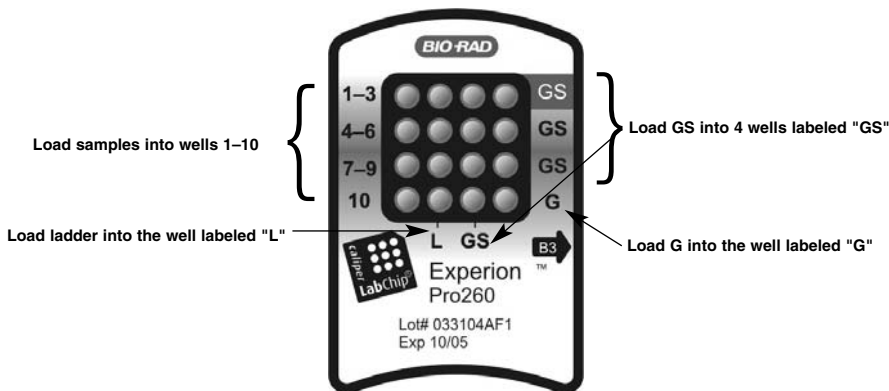

Fig. 1.2. Experion Pro260 chip. GS, gel-stain solution; G, gel; 1–10, samples; L, Pro260 ladder.
2. Pipet 12 μ l GS into all four wells labeled **GS** (including the gel priming well) (Figure 1.2).
3. Pipet 12 μ l filtered gel (G) into the well labeled **G** (Figure 1.2).